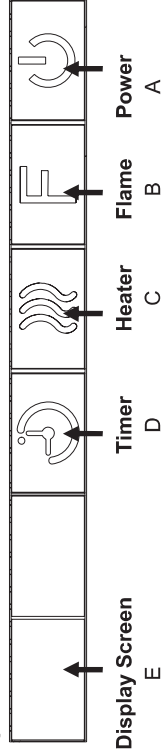

Figure 6
Power(Figure 6.A):
FLAME(Figure 6.B):
Heater(Figure 6.C):
Press once to activate the Low Heat Setting (L), press the button the Second time to activate the High Heat Setting(H), and the Third time to activate the "Auto" function(A), after that the thermostat starts to work and to setup desired setting before the BLUE indicator light fading away;the highest temperature of thermostat is 95° F and the lowest is 65° F. Once activate the HEATER, the display screen(Figure 6.E), will display the heater setting in using accordingly shortly. You may turn off the HEATER by this button as well.
Timer(Figure 6.D):
Press once to activate the TIMER. Using the TIMER to have the unit turn off automatically after 30 minutes or up to 9 hours. The display screen(Figure 6.E) will present the setting shortly.